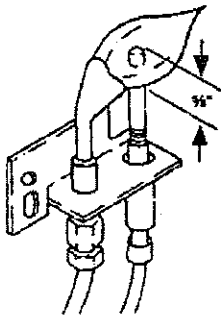
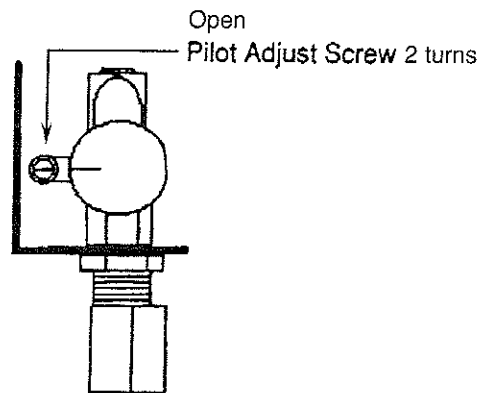

Figure 18
Figure 19
**NOTE:** Open Pilot Adjust Screw 2 turns before lighting. (See Fig. 19 on page 7)
The Pilot Thermocouple should be engulfed by the Pilot Flame by approximately 1/2". (See Figure 18.) Should Pilot Flame become inadequate to heat the thermocouple properly, you will need to adjust the pilot (See Figure 19.) Adjust the height of the Pilot Burner Flame by rotating the Pilot Adjust Screw to the desired flame height.
Visually inspect the pilot. Dust or blow away any dust or lint accumulating. See Figure 18 for typical view of pilot burner flame.